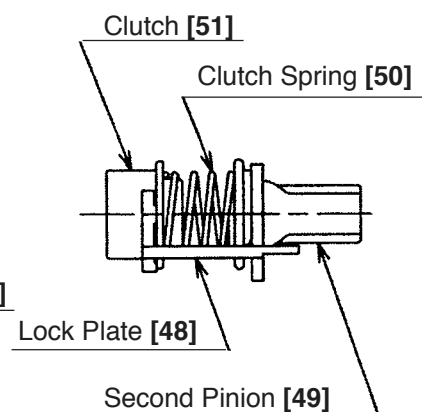

Fig. 15
- Pull out the Second Pinion [49], Clutch Spring [50], Clutch [51] and the Lock Plate [48] (these parts are sandwiched by means of the Lock Plate [48] as a unit as shown in Fig. 15) from the end of the Second Shaft [52]. Turn the Reciprocating Bearing [53] so that the Piston [39] is moved to its maximum upper position (Inner Cover Ass'y [41] side). The arm of the Reciprocating Bearing [53] can then be disconnected from the Piston Pin [42], and the Second Shaft [52] and the components mounted on it can be removed from the Inner Cover Ass'y [41] as a unit.